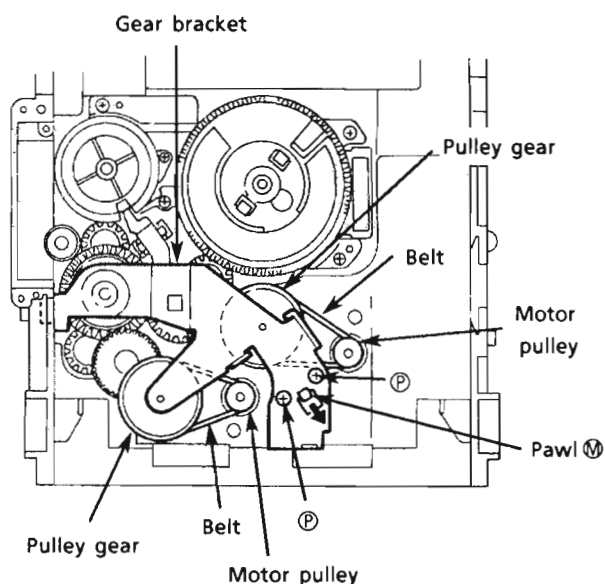

Fig. 44
(See Fig. 44.)
2. Press the pawl ④ securing the gear bracket to the arrow in the figure to remove the gear bracket. (See Fig. 44.)
4. Remove each belts from the both actuator motor pulleys and the pulley gears. (See Fig. 44.)